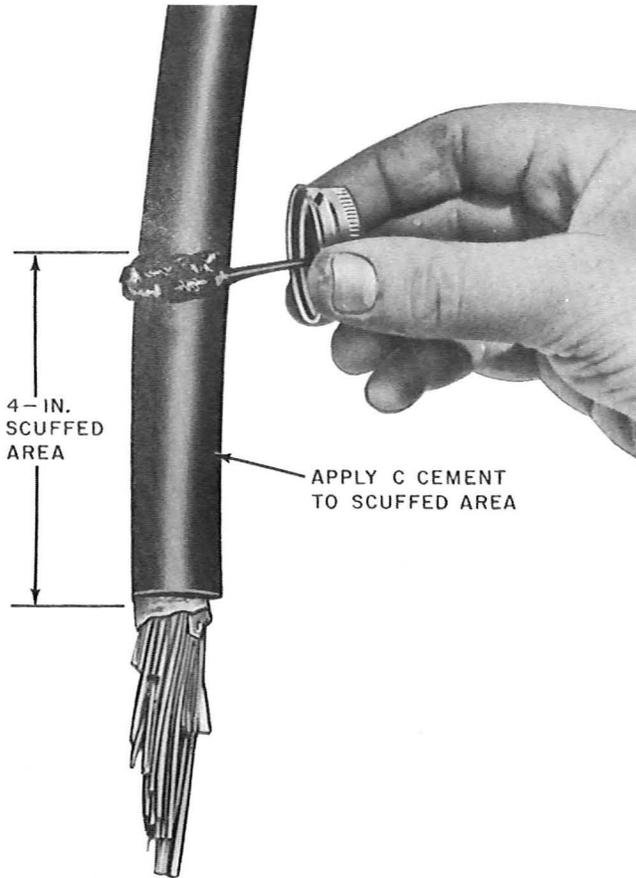

Fig. 7—Applying C Cement
- (5) Apply a coating of C Cement to the scuffed area (Fig. 7). This will prevent water migration between the cable sheath and the encapsulant.